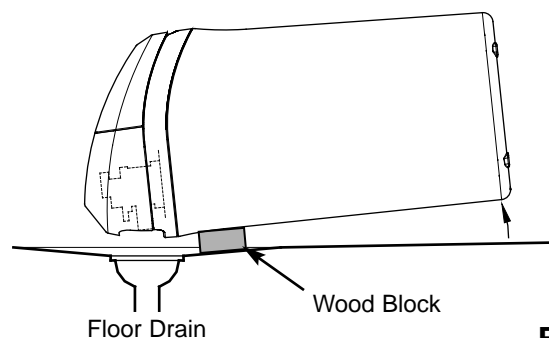

FIG. 31
6. Lay a piece of 2 inch thick board near the floor drain (See Figure 31).